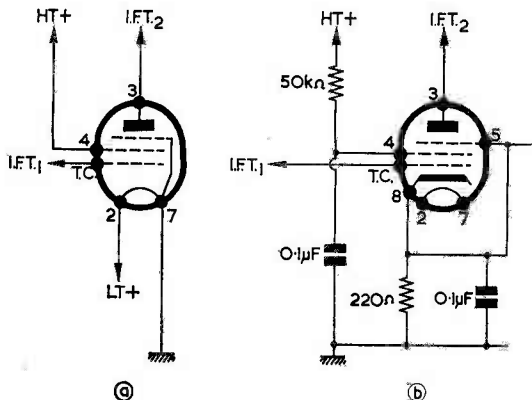

Fig. 2 (a). Stage 2. Original battery circuit using a DF33 and (b) circuit after conversion for 6K7
The I.F. Amplifier (V_2 6K7 Fig. 2).
- (1) Locate the chassis end of the signal diode load resistor and transfer this connection from chassis to pin 8 of the valveholder—the cathode. (Detector diode is pin 4.)
- (2) Insert a $1M\Omega \frac{1}{4}W$ resistor between d_2 (pin 5) and chassis and reconnect the a.g.c. line to this pin via a $1M\Omega$ resistor, if the latter is not already present.
- (3) Either join the two diodes (pins 4 and 5) via a $100pF$ capacitor or place this capacitor between V_2 anode and d_2 (pin 5). The latter is probably the better course and is that shown in Fig. 2 (a).
- (4) Insert R_k , $3k\Omega$, between pin 8 and chassis together with a bypass capacitor of $25-50\mu F$, 12V working. (This capacitor is optional.)
- (5) Make sure that the anode load resistor is of the correct value. This should be around $0.25M\Omega \frac{1}{2}W$ and the original may be found to be too high. The coupling capacitor between the anode of V_3 (pin 3) and the grid of V_4 (pin 5) should be rated at at least 350V working and be leak-free.